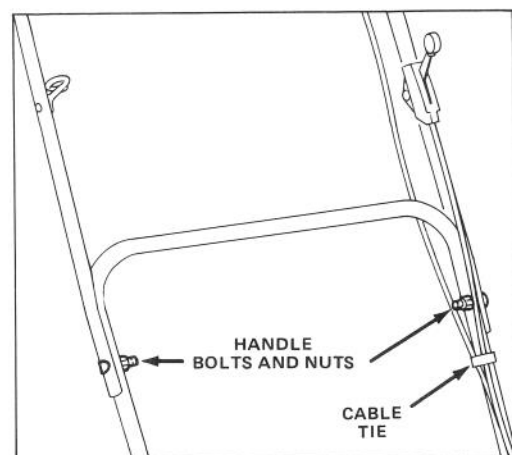

Figure 2
2. UPPER HANDLE (Fig. 2) — Secure upper and lower handles in place with handle bolts and nuts. Control cables must be in front of lower handle cross member. Secure control cables in position with cable ties.